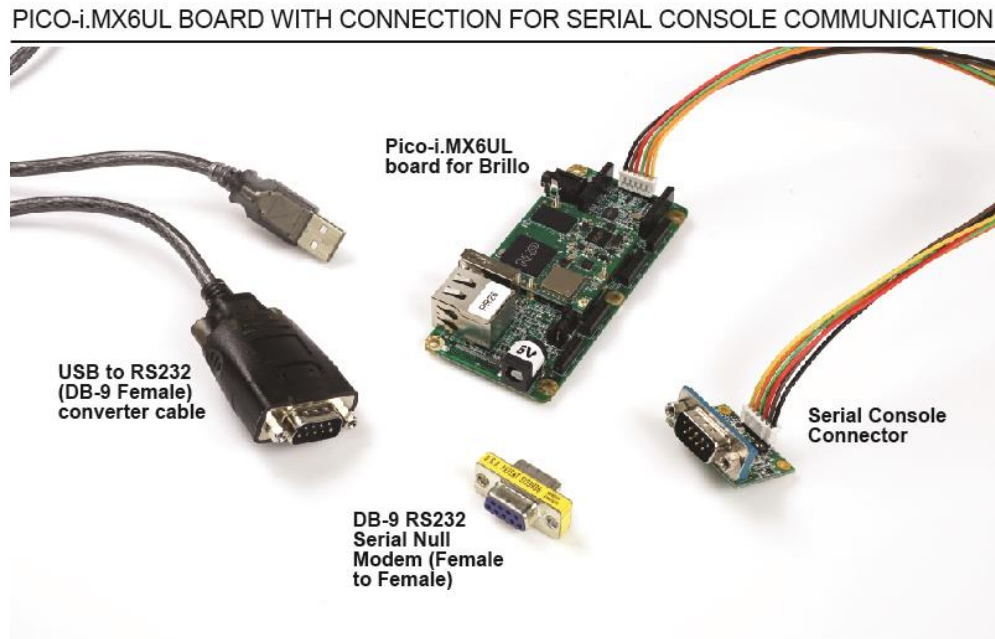

Figure 5. PICO-i.MX6UL board with connection for serial console communication
1. Connect the USB to RS232 adapter to the DB9 null modem and serial console connector as shown in Figure 5. Connect the USB end of the USB to RS 232 adapter to the PC. For more instructions for serial communication terminal setup, see next section.